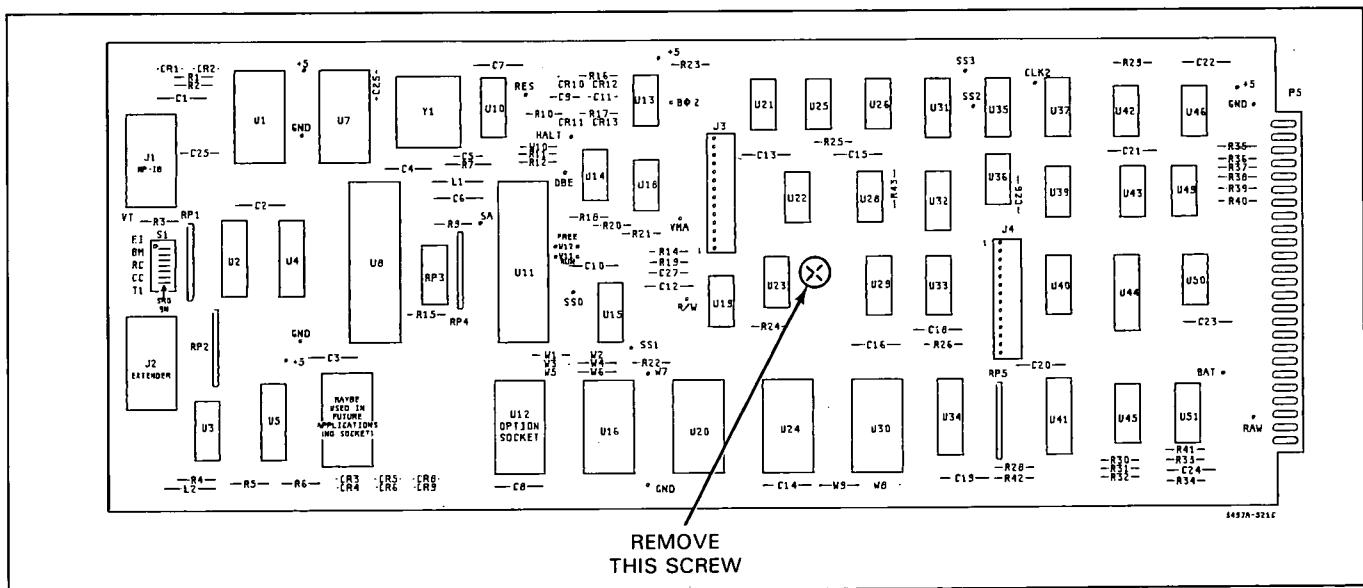

Figure 2-19. Timer/Pacer Board Mounting Screw
- a. Refer to Figure 2-19. With the outguard logic board removed, locate and remove the timer/pacer board mounting screw on the outguard logic board. Remove the screw, as shown in Figure 2-19.